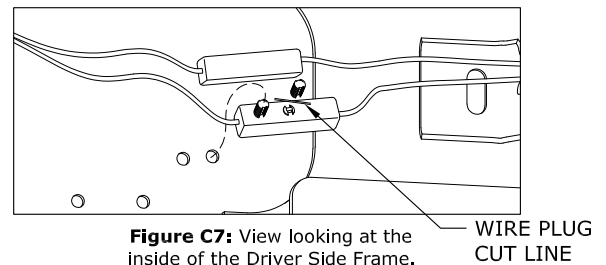

Figure C7: View looking at the inside of the Driver Side Frame.
4. **Move wire plug.** On some truck models a small wire plug will have to be moved in order to install the U-Bolt. Pull the wire bracket from the frame and cut one of the plastic ratchet fasteners as shown in figure C7. Once the U-bolt is installed plug the remaining plastic ratchet fastener into the hole where the cut ratchet fastener was in the original installation.